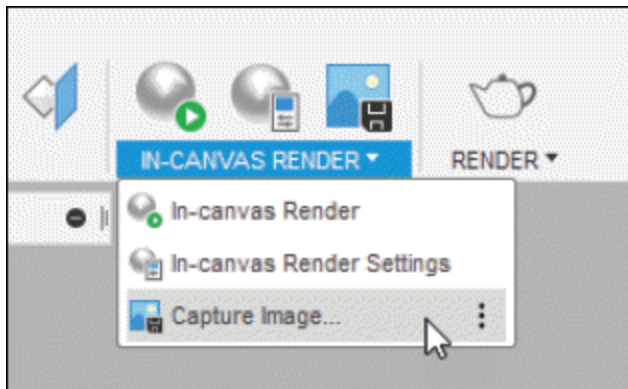
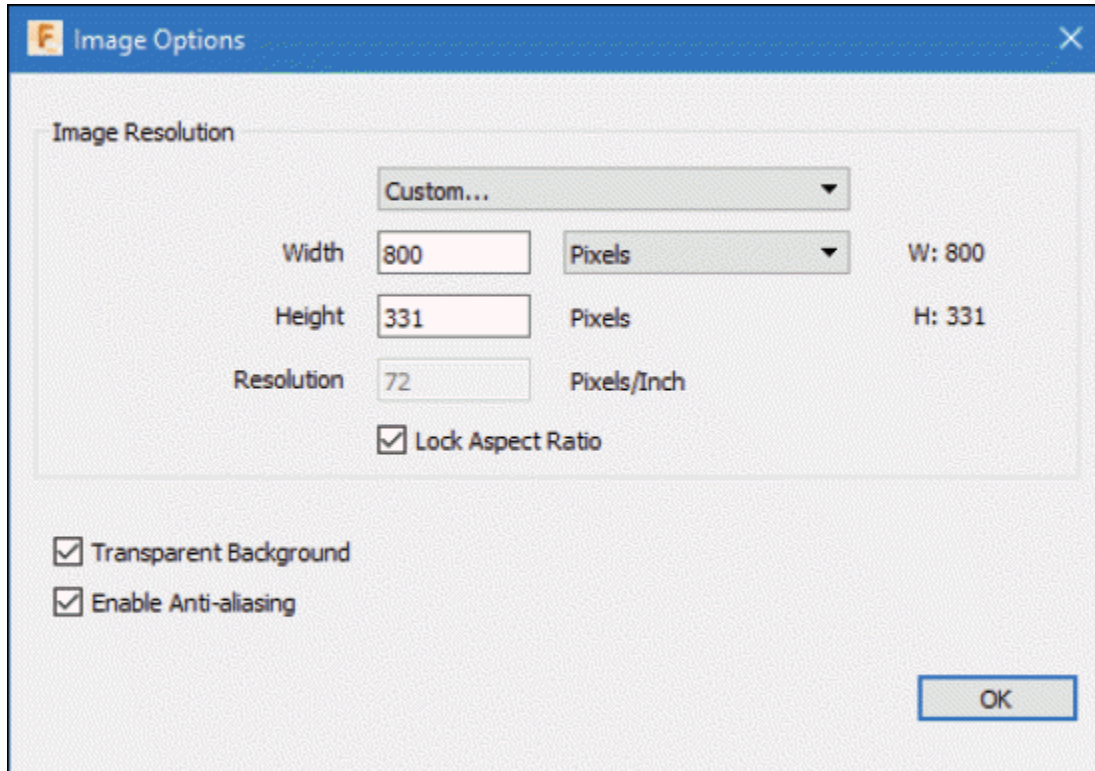

Figure-17. Capture Image tool
Figure-18. Image Options dialog box
- Click on the **Capture Image** tool of **IN-CANVAS RENDER** drop-down in **Toolbar**; refer to Figure-17. The **Image Options** dialog box will be displayed; refer to Figure-18.